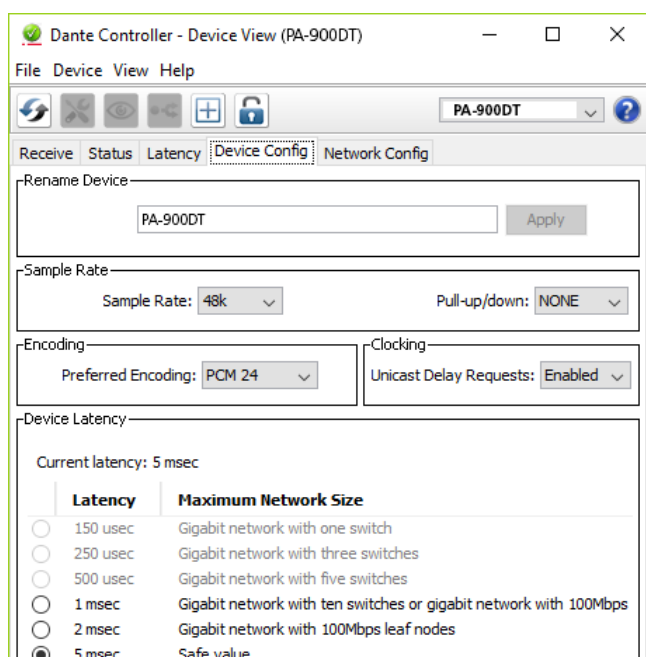

Fig. 8 Device View of PA-900DT
- 5) The third bar can be used to indicate information on the unit and to make settings. Select the tab “Device Config” (refer to fig. 8).